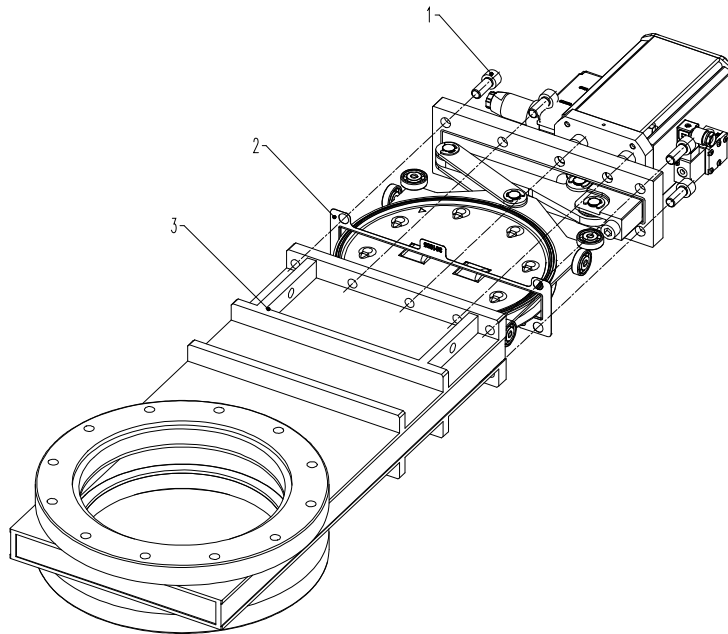

Figure 6-1
5. Remove screws (1) according to «Figure 6-1» on page 16.
6. Withdraw actuator / mechanism unit carefully from body without touching the body wall; see «Figure 6-1» on page 16
21. Mount screws (1) according to «Figure 6-1» on page 16.